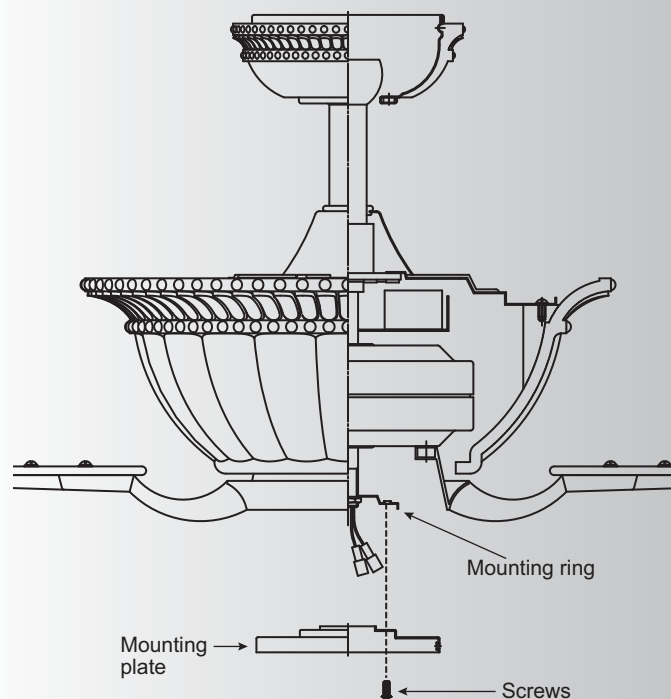

Fig. 17
1. Remove 1 of the 3 screws from the mounting ring and loosen the other 2 screws (do not remove). (Fig. 17)
2. Place the key holes on the mounting plate over the 2 screws previously loosened from the mounting ring, turn mounting plate until it locks in place at the narrow section of the key holes. Secure by tightening the 2 screws previously loosened and the one previously removed. (Fig. 17)